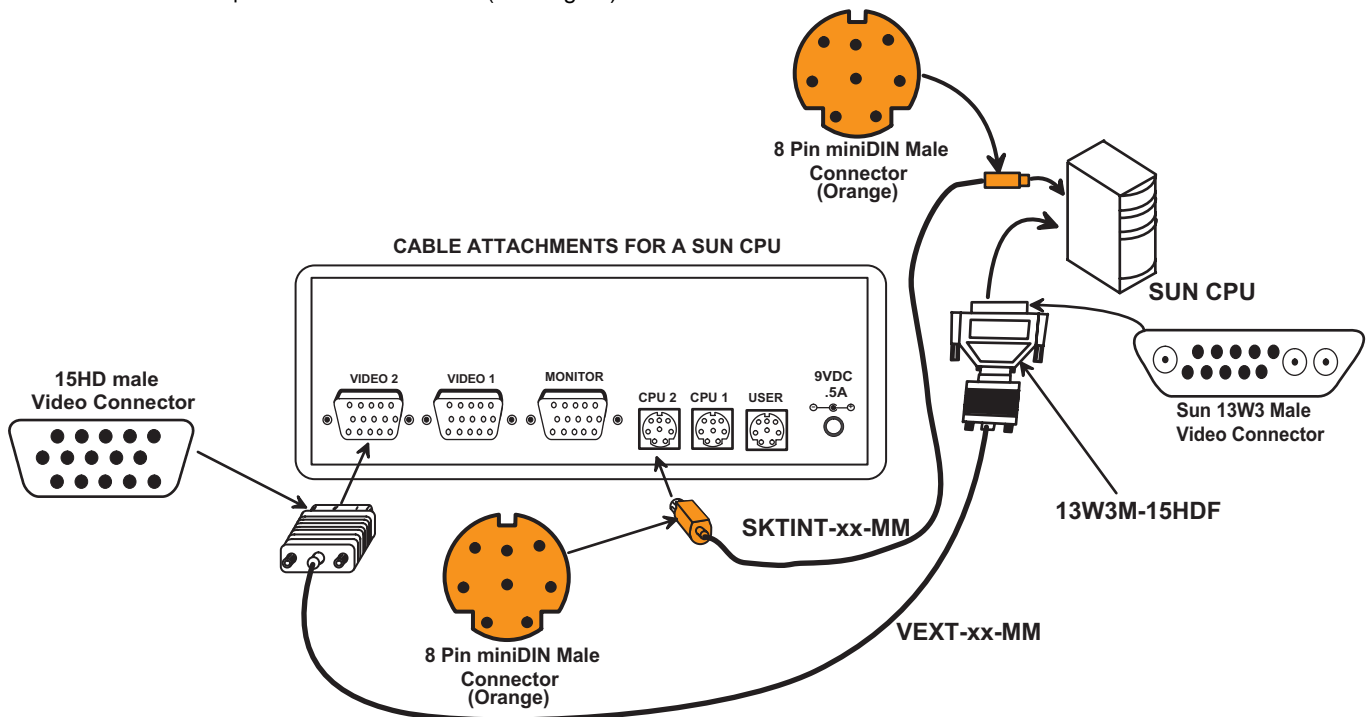

Figure 9- Connect SUN CPU to ST-2U
- SUN-** Attach an SKTINT-xx-MM cable between the keyboard port of the CPU and a 8 pin miniDIN female "CPU x" port on the ST-2U switch. Using a 13W3M-15HDF adapter, attach a VEXT-xx-MM cable between the video port on the CPU and a 15HD female "VIDEO x" port on the ST-2U switch. (See Fig. 9.)